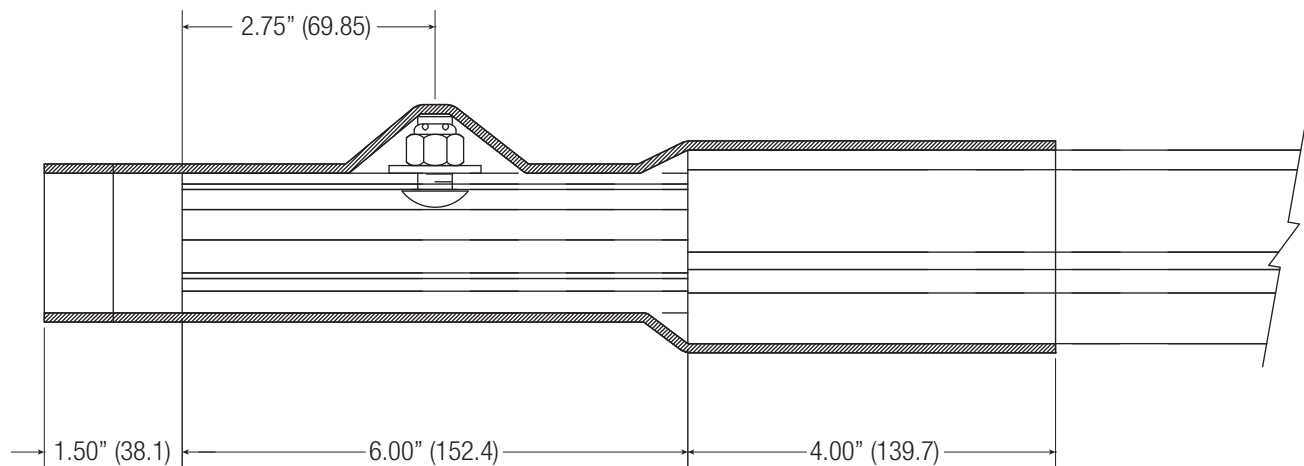

Figure 15-1
- A reference drawing of a standard heat end cover is shown in **Figure 15-1**.